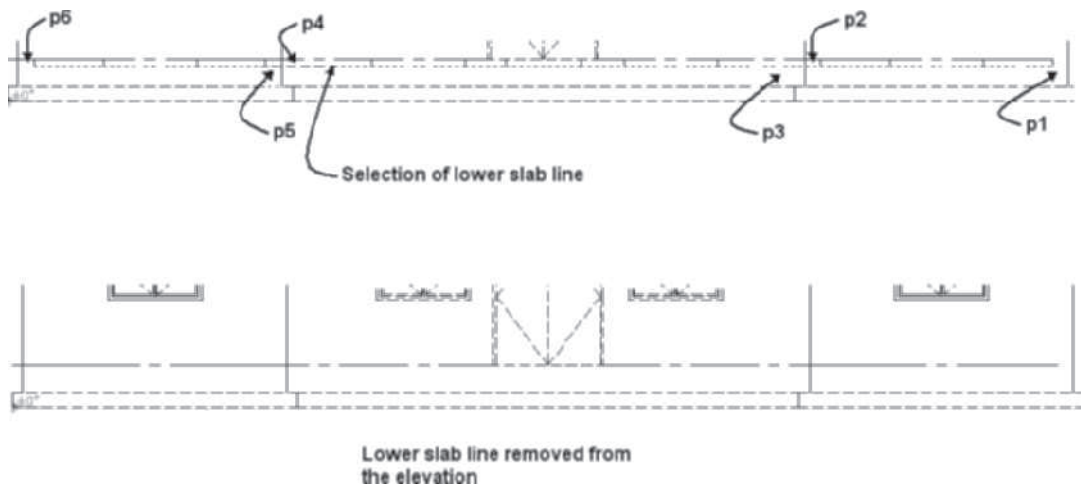

FIGURE 12.75 Lower slab lines removed using **Linework** > **Edit**
28. In this step you will remove some of the slab lines to display a single line representing the top of slab. Select the elevation, choose **Edit** from the **Linework** panel. Select the lines representing the vertical edges and bottom of the slab using a crossing window from **p1** to **p2**, **p3** to **p4**, and **p5** to **p6** as shown in Figure 12.75, and then right-click and choose **Basic Modify Tools** > **Delete** from the shortcut menu. Select **Finish** from the **Edit In Place: Linework** tab.